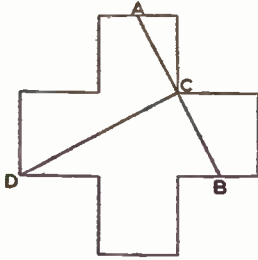

FIG 1
Reference to Fig. 1 will reveal a cross made from a piece of plywood measuring 3ins. square, each arm being 1in. wide, and it will be found best to first cut out the true cross shape before making the divisions, although the whole may be marked out before cutting. Mark the centre of the arms at (A) and (B), joining together through the corner (C). The next and final division is made from point (C) to point (D). Use a fine saw for cutting out, smoothing off carefully with glasspaper. Having proceeded so far, the next step is to fit the four shapes together in the form of a square.